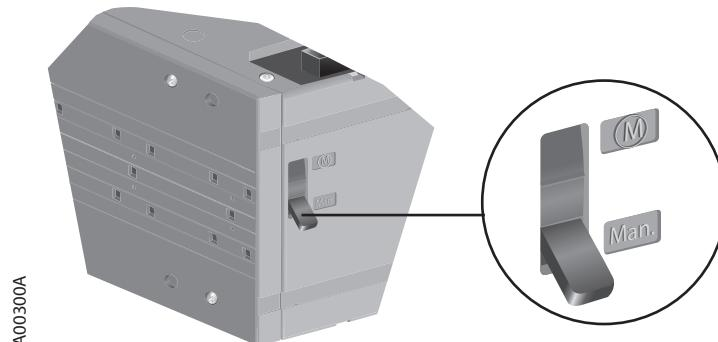

Fig. 6-5      Motor/Manual selection in the Man. position
1. Turn the Motor/Manual selector to the Manual (Man.) position, see Figure 6-5. The motor operator is switched off and electrical control is prevented.